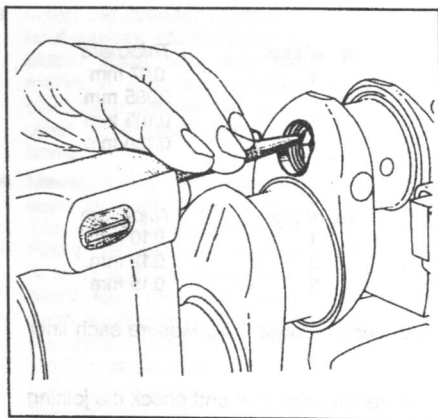

Fig. 1.28. — Oil gallery plugs are peened in position in the manner shown after they have been tightened to the specified torque.
- After the plugs have been tightened, use a pointed centre punch and peen the plug in the inside to the crankshaft. As you may notice, the plug will be rather deep in its bore and must be peened as shown in Fig. 1.28. Make sure that the plug is well secured.